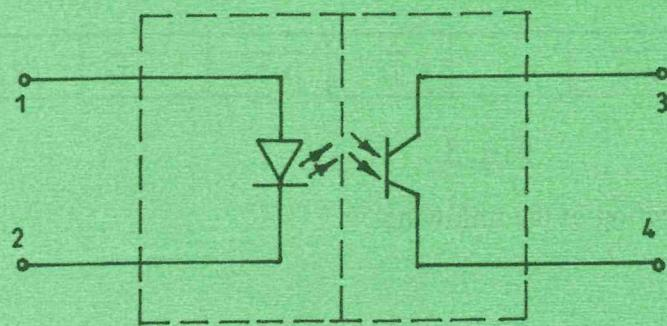

Fig. 5
- (b) Figure 5 shows a schematic diagram of an electronic component.